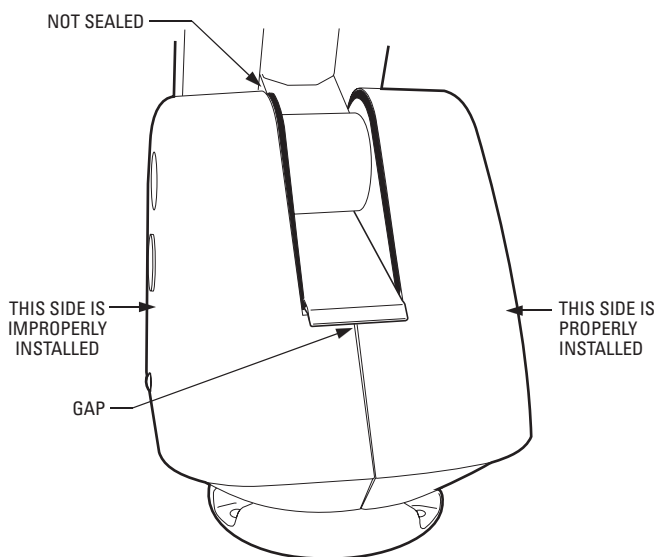

Figure 4. Proper Installation of Cover
3. Reinstall the left cover on the pan and tilt. The cover must be properly seated and have a tight seal all the way around when installed (refer to Figure 4). To reinstall the cover, do the following: